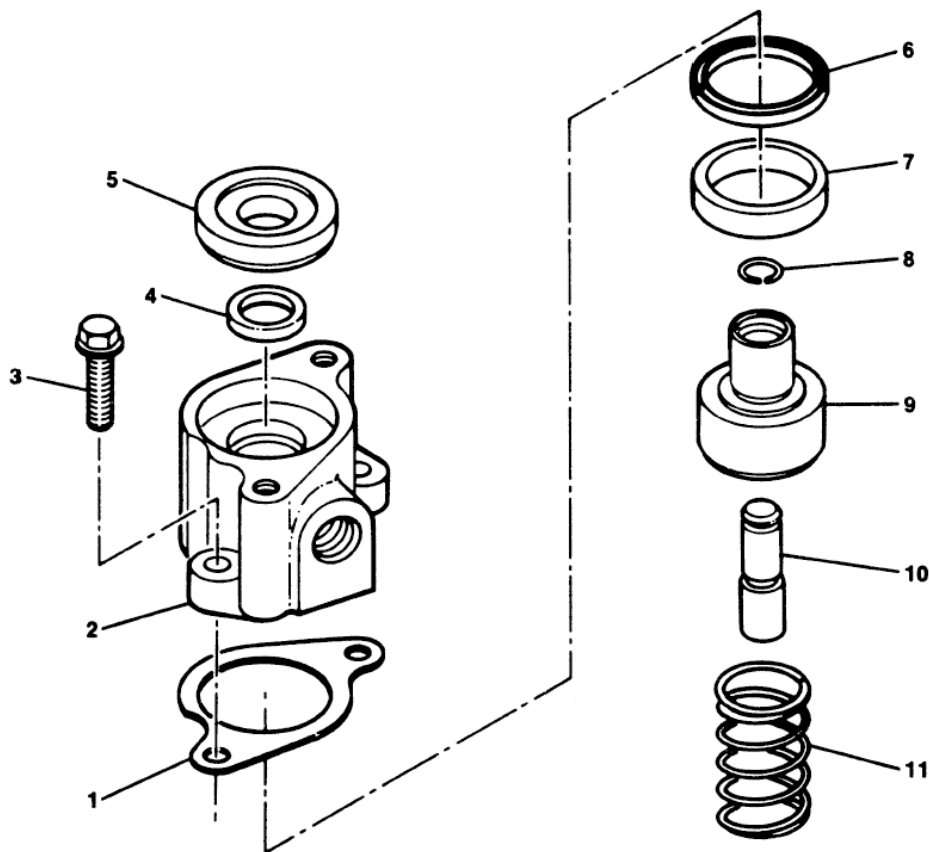

Figure 4-1. Parts for Pressure Shutdown Device
2. Install the Pressure Shutdown device on the Electric Shutdown. Secure with two screws (3), Figure 4-1.
2. Install the Pressure Shutdown on the Electric Shutdown and secure it with two screws (3), Figure 4-1.
Disassemble the shutdown according to the following instructions. Reference numbers in parentheses are assigned to each part in the exploded view, Figure 4-1.
(Figure 4-1)